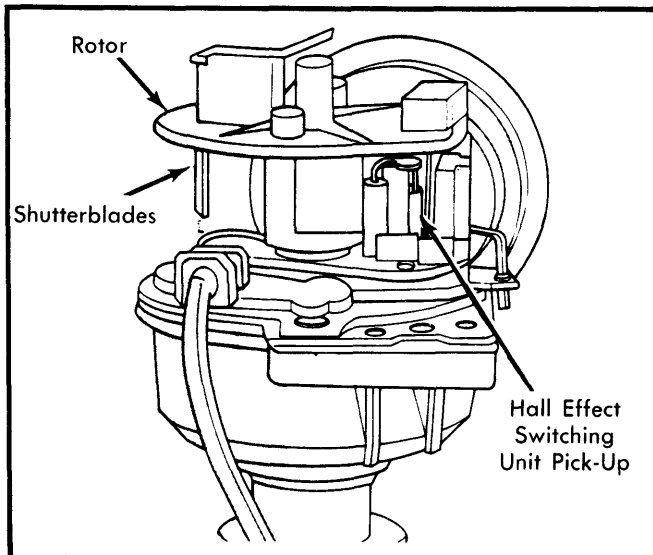

Fig. 2 Location of Hall Effect Pick-Up Assembly in Distributor
Hall Effect Pick-Up Assembly – This device is located in the distributor to supply basic timing signal to the computer. From this signal, the computer can determine engine speed (RPM), when each piston is coming up on its compression stroke or when engine is in the start mode. See Fig. 2.
11) If spark resulted, but engine will not start, replace Hall Effect Pick-Up. Before replacing, however, always be sure rotor shutterblades are grounded. Connect 1 ohmmeter lead to a good ground and touch other lead to shutterblade. See Fig. 2. If no continuity, push down on rotor to seat against shaft. If still no continuity, replace rotor. If shutterblade is grounded, then proceed to replace Hall Effect Pick-Up.